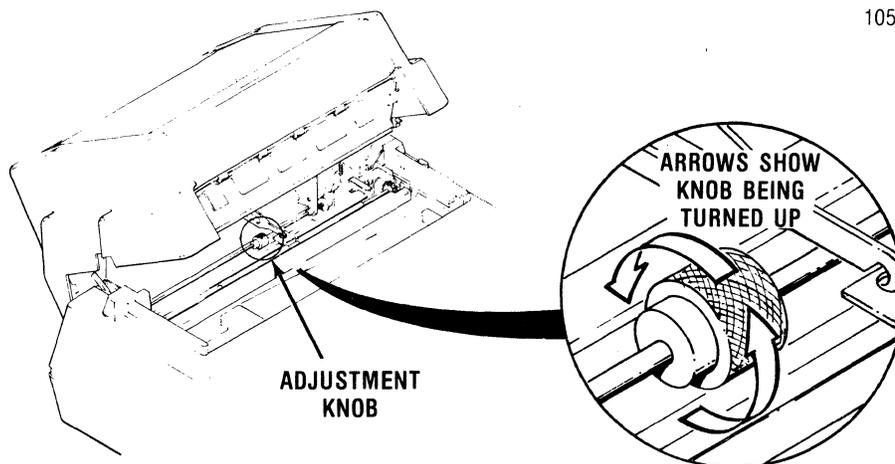

Figure 3-5 Horizontal Adjustment; Adjustment Knob
3. Tilt the feeder body back and locate the horizontal adjustment knob, shown in detail in Figure 3-5.
5. Turn the knob UP (see Figure 3-5) to move the feeder toward the RIGHT (control panel) side of the printer; turn the knob DOWN to move the feeder toward the LEFT (forms lever) side of the printer.